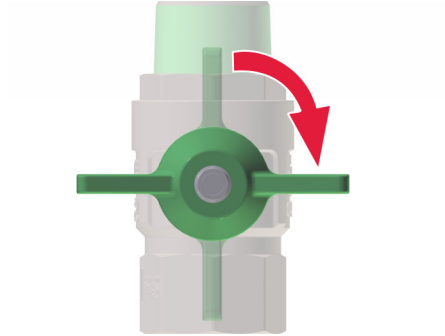

Fig. 29: Closing the ball valves
- 1.** ➤ Close all ball valves (Fig. 29) on the heat interface unit.